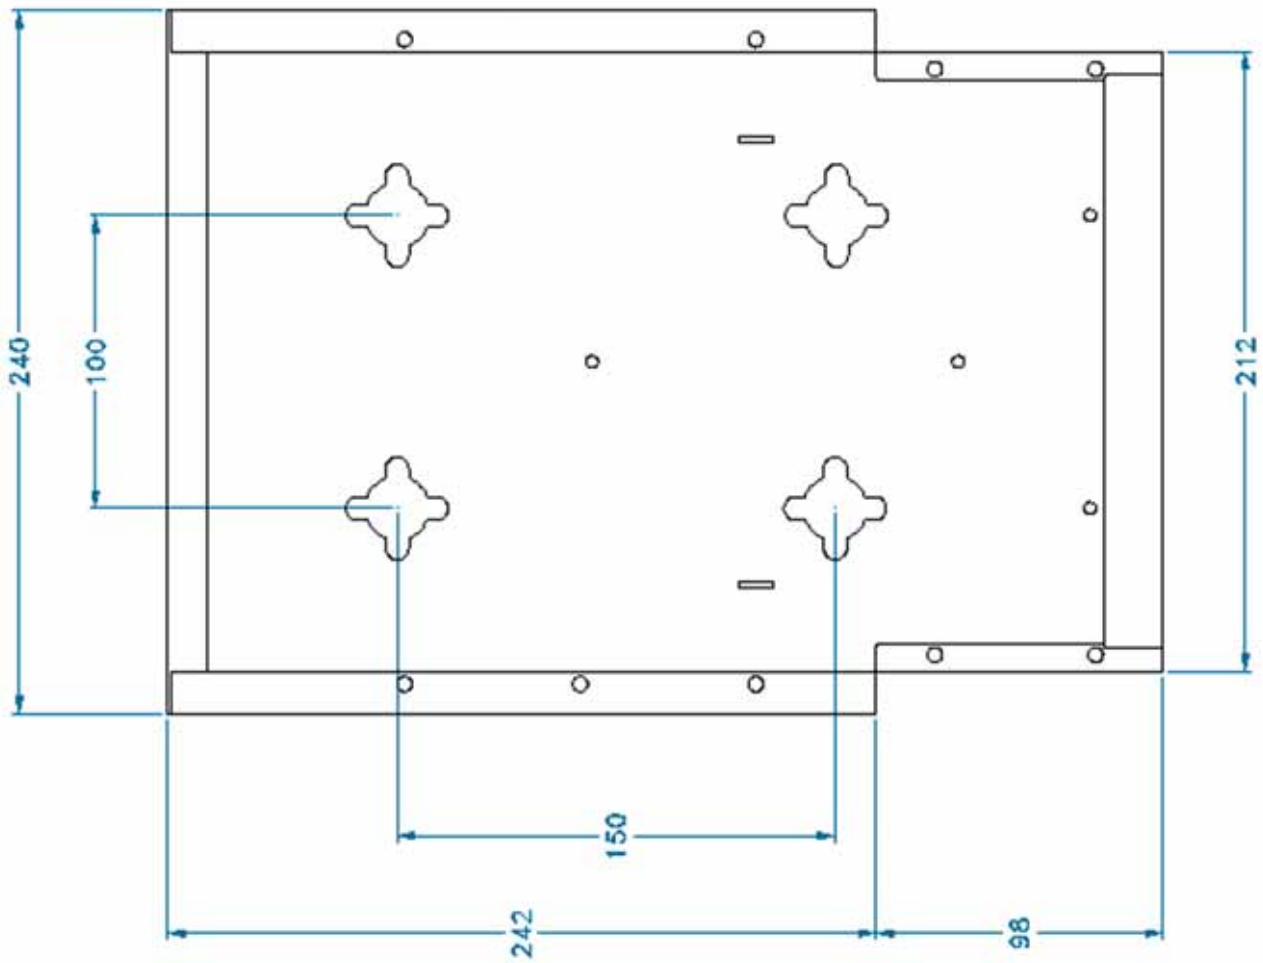

Figure 3.3.11: Layout of the TKA installation kit, provided with Case B Remote Units.
2. In order to install the M4 screw anchors (included) which hold up the TKA04 wall bearing, drill into the wall according to the TKA layout shown in Fig. 3.3.11.